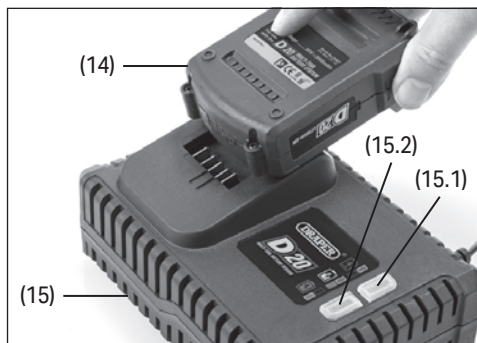

Fig. 1
6.1 To charge the battery pack: - Fig. 1.